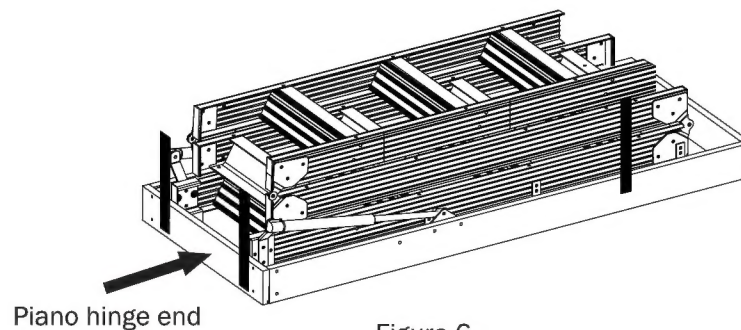

Figure 6
8. Install metal E-Z hang straps to the folding aluminum attic ladder (See Figure 6), prior to lifting folding aluminum attic ladder into rough opening.
- B. It is recommended to drill pilot holes to keep from splitting the frame boards. Using the $\frac{7}{8}$ " roofing nails and straps provided, attach one strap using two (2) of the roofing nails enclosed, on the outside of the folding aluminum attic ladder frame at the extreme right hand corner near the door stop blocks.
- C. Attach the second strap outside the first strap on the far outside frame. (See Figure 6)
- D. The third and fourth straps should be positioned on the piano hinge frame end on each corner opposite the door opening. (See Figure 6).